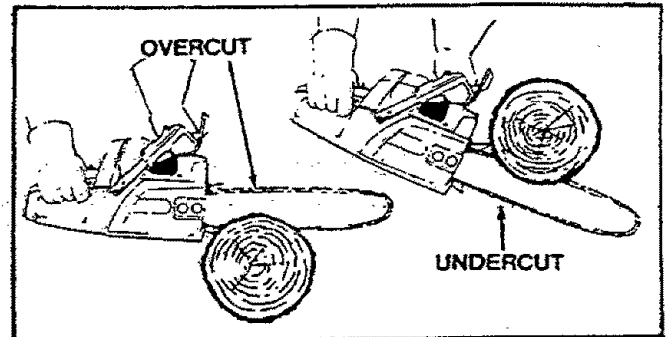

Figure 22
- Give special attention to logs under strain to prevent the saw from pinching. Make the first cut on the pressure side to relieve the stress on the log. Figure 22.
### 2. TYPES OF CUTTING USED Figure 22.